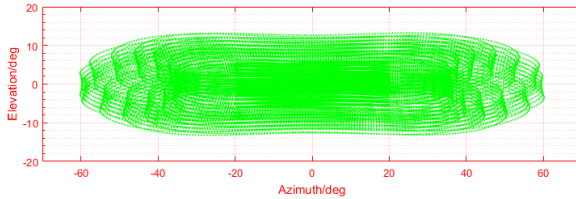

Figure 1.2.1 Point Cloud Allocation of the HAP (TX) within 0.1s (coordinates units: $^{\circ}$)
Figure 1.2.1 displays the point cloud allocation of the HAP (TX) inside the FOV within 0.1s. In the center of the FOV, the scanning density is denser, with the average spacing of lines being 0.2° (most line spacing is from 0.1 to 0.3°), which is much denser than traditional 64-line LiDAR sensors. The two areas on both sides have a lower scanning density and average spacing lines of 0.3° (most line spacing is between 0.2 to 0.5°), rivaling traditional 64-line LiDAR sensors within 0.1 seconds.